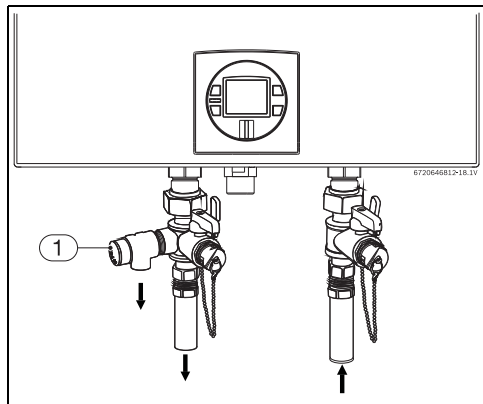

Fig. 37 Plumbing Connections (with shutoff valves) and Pressure Relief Valve
- Full port shutoff valves should be installed on both the cold water supply and hot water outlet lines to facilitate servicing the heater (see fig. 37).
A listed pressure relief valve must be installed at the time of installation. No valve is to be placed between the PRV and the heater. No reducing coupling or other restriction may be installed in the discharge line. The discharge line must be a minimum of 4" above a drain and installed such that it allows complete drainage of both the PRV and the line. The discharge line must be placed where it will not cause any damage. The location of the PRV must be readily accessible for servicing or replacement, and be mounted as close to the water heater as possible. See fig. 37. To install the PRV, a suitable fitting connected to an extension on a "T" fitting can be sweated to the hot water line. Support all piping.